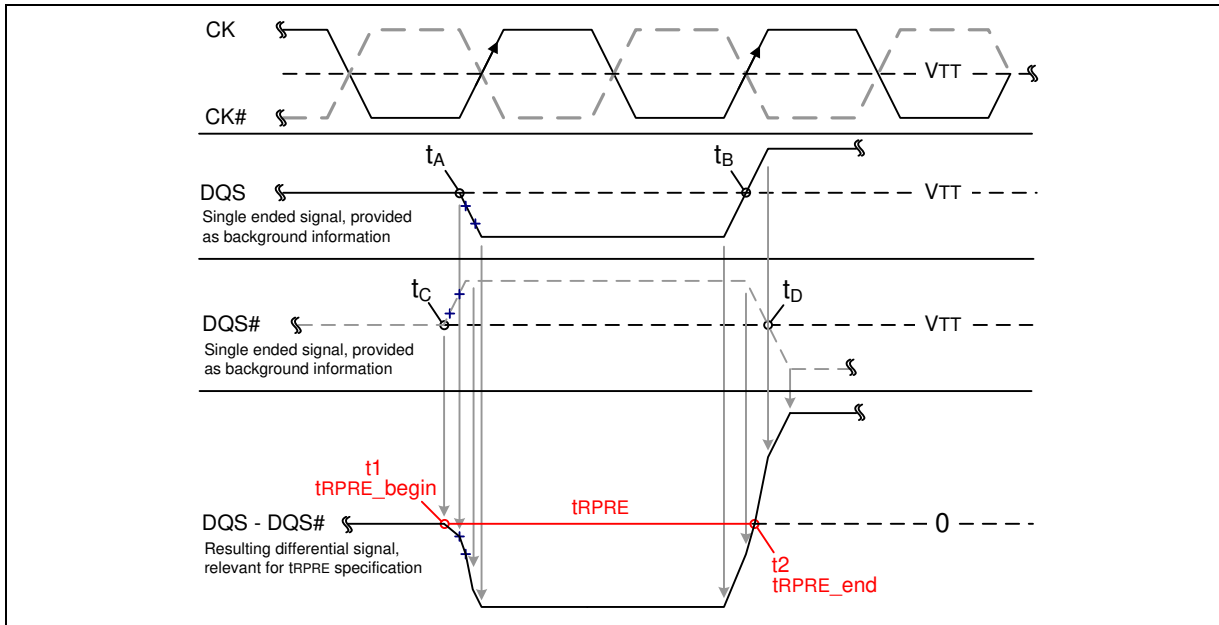

**Figure 26 – tLZ and tHZ method for calculating transitions and endpoints**
$t_{LZ}(\text{DQS})$ ,  $t_{HZ}(\text{DQS})$  for preamble/postamble (see section 8.13.2.3 and Figure 26).
**8.13.2.3 tLZ(DQS), tLZ(DQ), tHZ(DQS), tHZ(DQ) Calculation**
tHZ and tLZ transitions occur in the same time window as valid data transitions. These parameters are referenced to a specific voltage level that specifies when the device output is no longer driving tHZ(DQS) and tHZ(DQ), or begins driving tLZ(DQS), tLZ(DQ). Figure 26 shows a method to calculate the point when the device is no longer driving tHZ(DQS) and tHZ(DQ), or begins driving tLZ(DQS), tLZ(DQ), by measuring the signal at two different voltages. The actual voltage measurement points are not critical as long as the calculation is consistent. The parameters tLZ(DQS), tLZ(DQ), tHZ(DQS), and tHZ(DQ) are defined as singled ended.